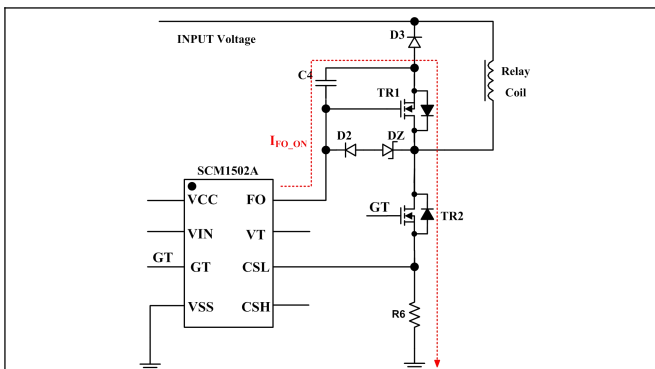

Fig. 5 Start-up circuit schematic
(1) Figure 5, the working principle of the chip startup, see the working principle diagram of the startup process. After the chip is started, the GT will output a high level, and the FO will continue to output a current-driven MOS transistor TR1. FO charges the gate of MOS transistor TR1, and the current  $I_{FO\_ON}$  path is as follows: When MOS transistor TR2 is turned on, the FO pin charges capacitor C4 through the body diode of MOS transistor TR1 and MOS transistor TR2. Each time the MOS transistor TR2 is turned on, the FO pin will charge the capacitor C4. Therefore, in the Pick-up and Holding stages, the MOS transistor TR1 is turned on all time.